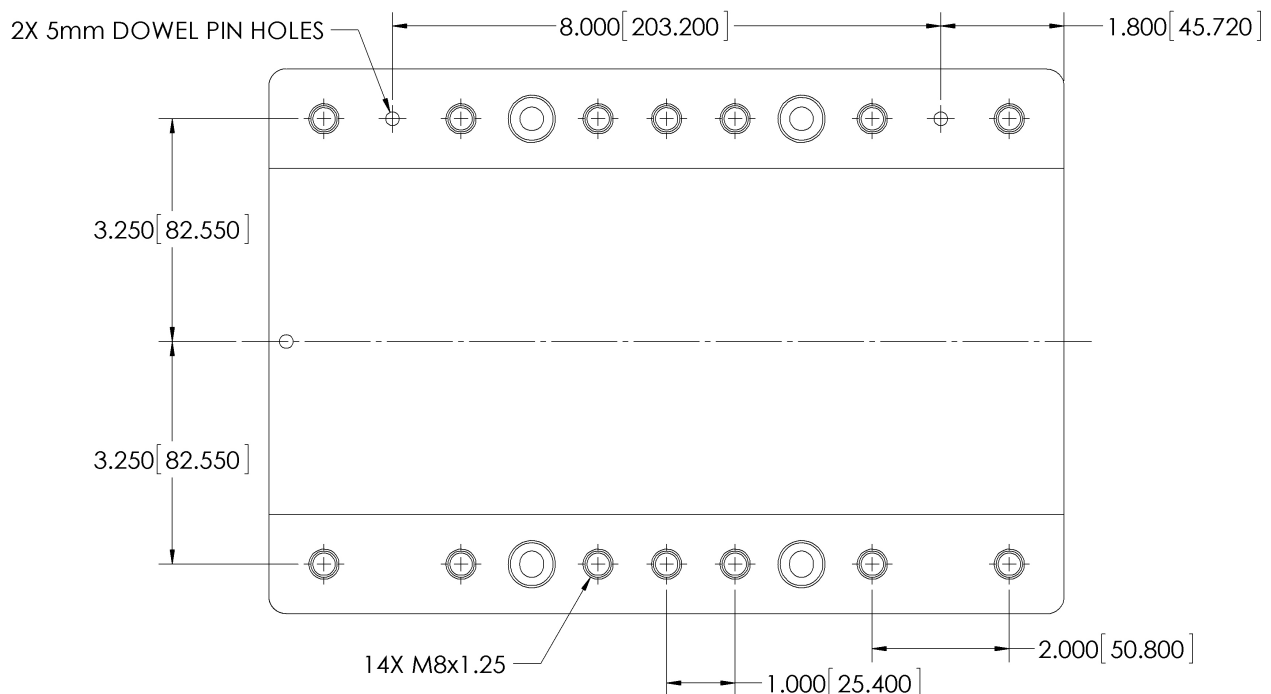

Figure 1. Carriage bolt hole pattern
The bolt pattern on the Carriage has been designed to facilitate motor installation in a number of configurations. The Carriage has (14) fourteen M8 x 1.25 mounting holes with a depth of 0.52 inch (13 mm) to provide secure attachment points. The mounting holes are spaced as shown in Figure 1. The Carriage also has (2) two 5mm dowel pin holes to facilitate alignment (See Figure 1 for location). These dowel pin holes are oversized to allow the pins to be glued into place using Loctite 609, or equivalent. **DO NOT press pins into the AFD Carriage, as this will damage the linear rails.**